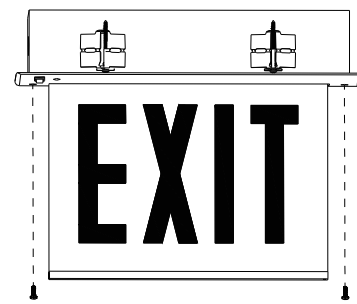

Fig. 11
10. Secure the trim plate assembly using remaining screws (provided) as shown in Figure 11.